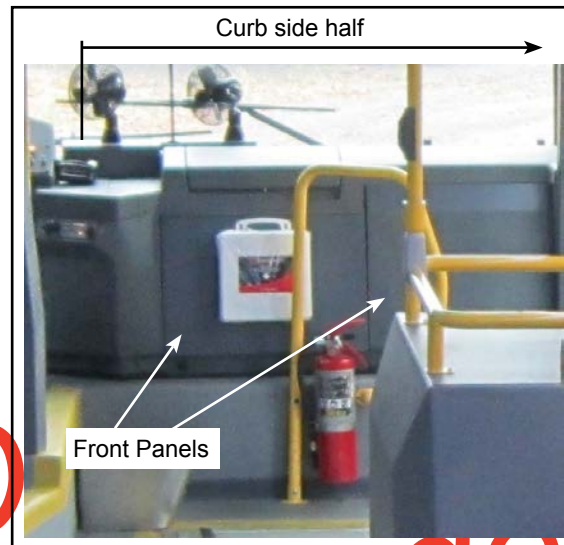

Figure 1 - Location of Accessories to be Removed (Typical)
- 1.1. Remove any accessories, on the curb side half of the dashboard. See Figure 1.
- 1.2. Remove the front dashboard panels. See Figure 1.